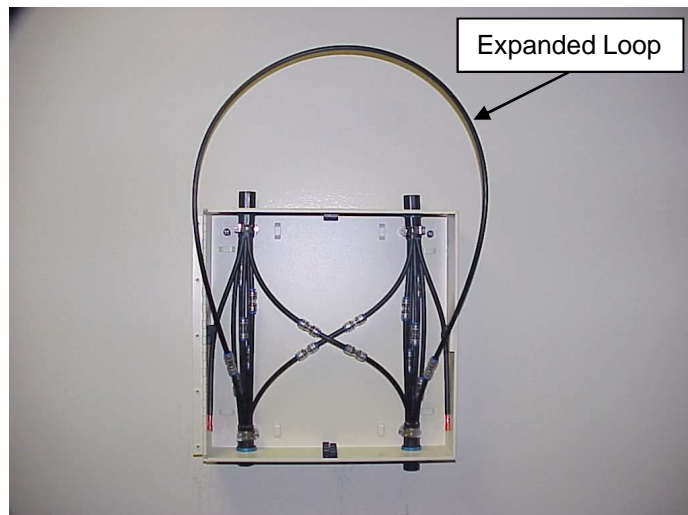

Figure 8b
9.7.2 When ready to begin blowing operations, open TDU, uncoil, and expand jumper tubing into its much larger radius loop. **See Fig. 8b.**